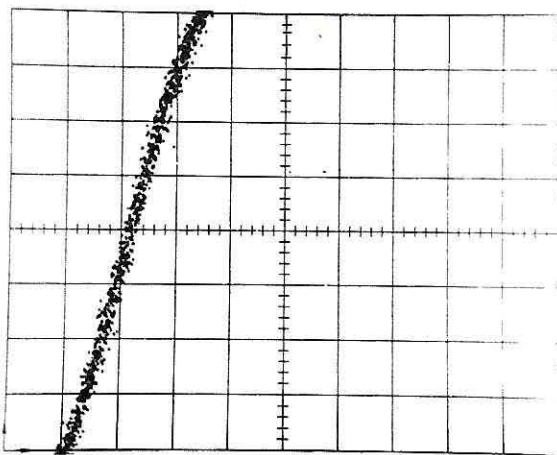

Fig. 7-13. Jitter; 80% of Dots within 3/10 of One Major Division.
i. Change the VOLTS/DIV to 20 mV and check that 80% of the dots are within .3 division (30 ps) horizontally (see Fig. 7-13).